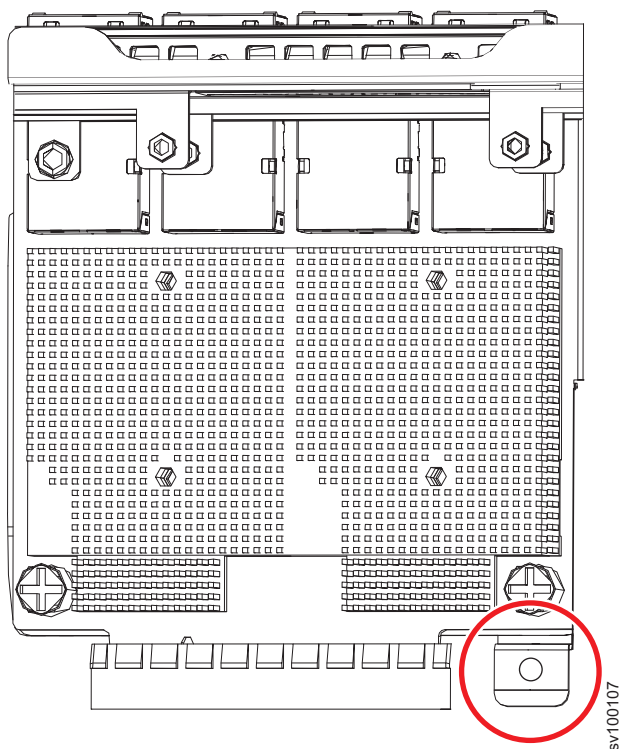

Figure 332. Location of the screw on the 2145-SV1 Ethernet chassis
13. Replace the screw (shown in Figure 332 on page 405) to secure the Ethernet edge board to the chassis.